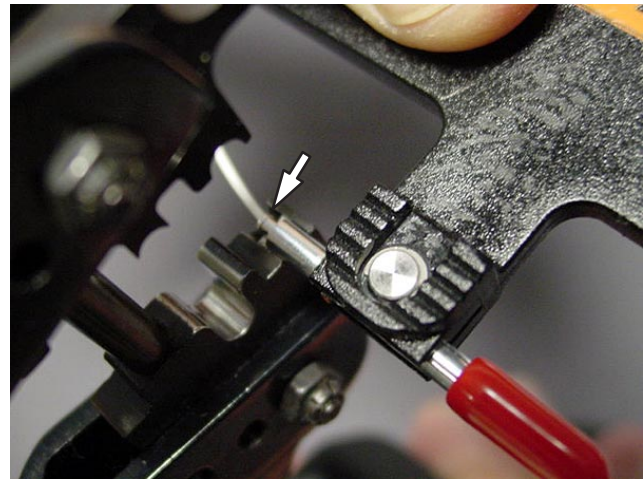

Figure 15
3. Place the body into the die set as shown in Figure 15 and crimp the buffer by closing the handles until the ratchet releases.